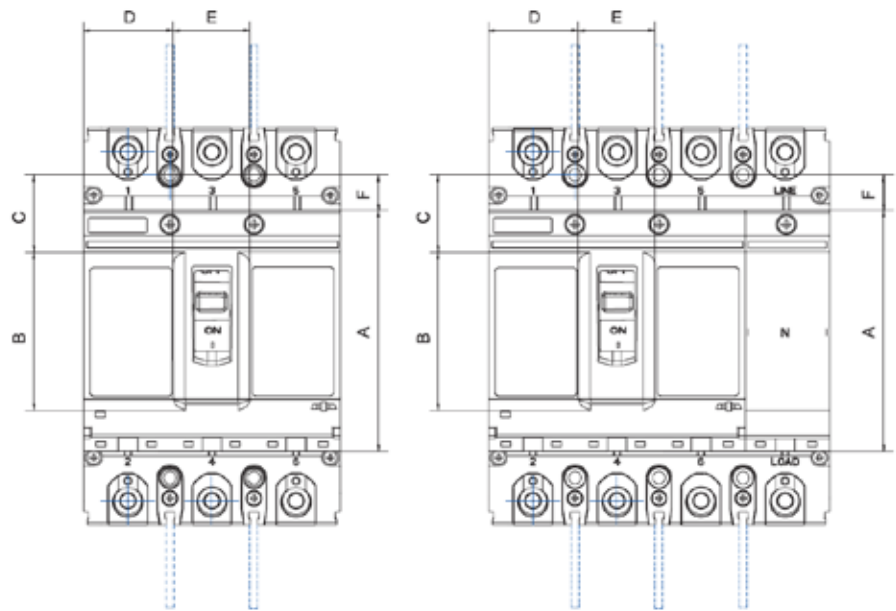

Figure 3 Hole sizes of the handle and panel
9.2 The hole sizes of the handle and panel of the product (Table 32 and Figure 3)